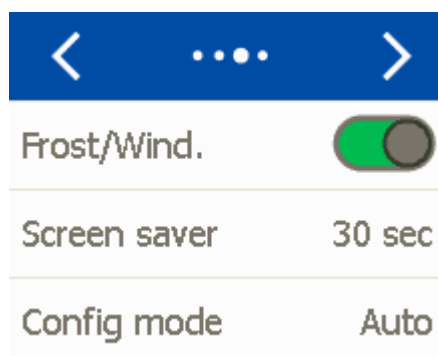

Fig. 82: Frost sensor / window contact
The 'Frost/Window' screen (Fig. 82) allows you to activate or deactivate a frost protection sensor and a window contact on the zone module.
- ⇒ The 'Frost/Window' screen (Fig. 82) displays.
3. ▶ If the 'Frost/Window' function is not active, click on the Frost/Window button (Fig. 82).